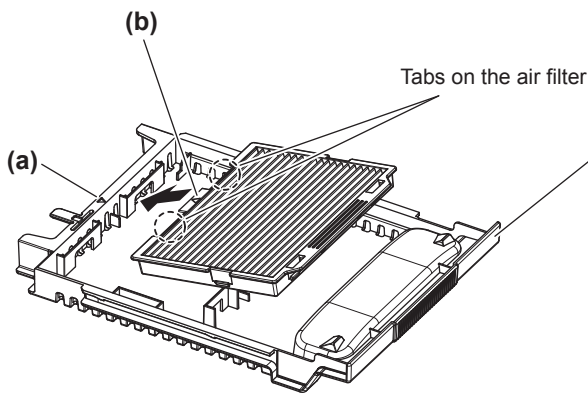

Fig. 1
- Attach the air filter by aligning the marking ($\triangle$) on (a) and (b) and inserting the tabs on the air filter to the air filter case. (Fig. 1)